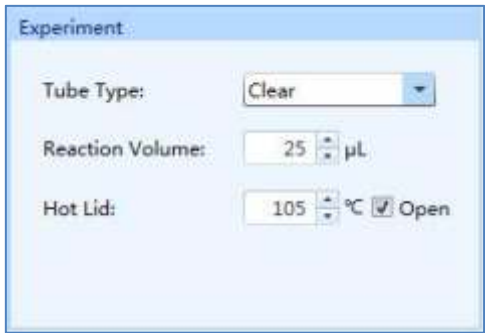

Figure D-5.2 Experiment editing area
2. **Experiment Editing Area:** users can edit the relevant parameters of the current experiment in the experiment editing area, as shown in figure D-5.2.